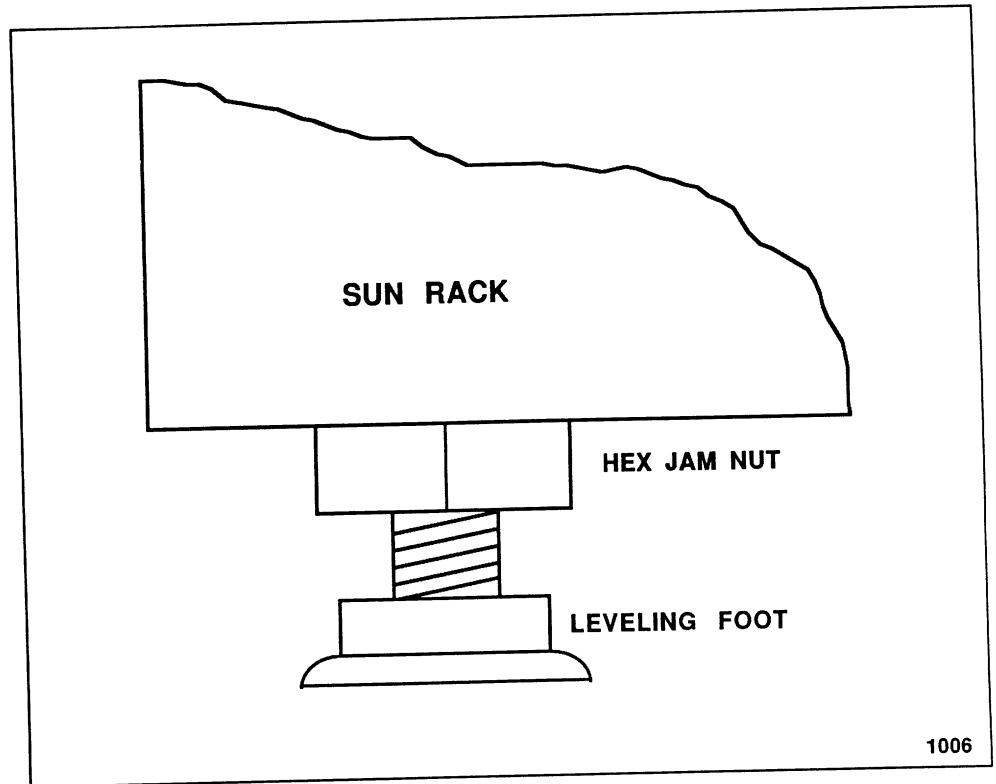

Figure 2-1 *Sun Rack Leveler Foot*
1. Place the system where you want it, but make sure that it is positioned at least **three (3) feet** from the wall.
2. There are four leveler feet which are threaded into the four bottom corners of the rack base (figure 2-1) threaded into the base of the rack. Unscrew these feet until **all four feet come in contact with the floor**. Be sure that the rack is level when the feet touch the floor. You must not be able to rock the cabinet back and forth or side to side.